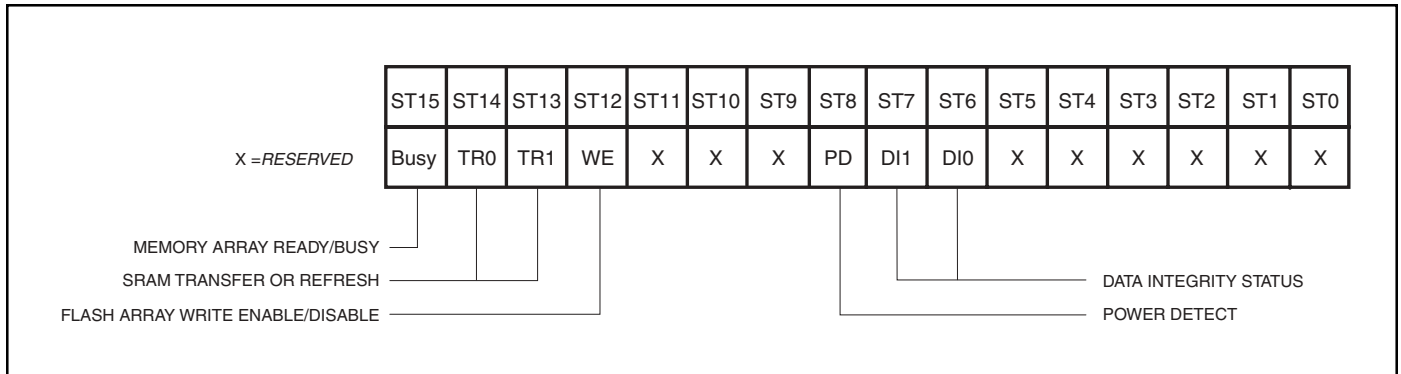

Figure 7. Status Register Bit Locations
The status register provides status of the Flash array's Ready/Busy condition ( $R/\bar{B}$ ), transfers between the SRAM and program buffer (TR0 and TR1), Write-Enable/Disable (WE), Compare Not Equal (CNE), Power Detect (PD) and Data Integrity status (DI0 and DI1). The register can be read using the Read Status Register command (Figure 7).